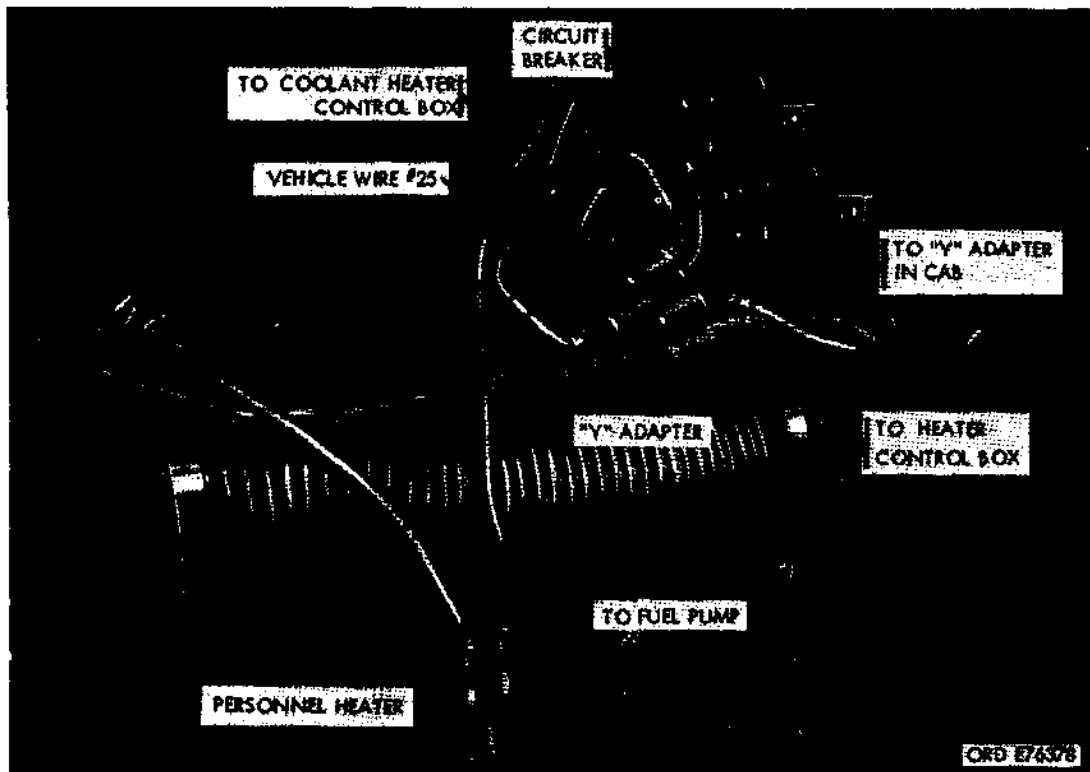

Figure 687. Vehicle to heater power connections.
- (1) Remove 1- $\frac{3}{8}$ inch knockout on firewall above and near the heater duct (Figure 687).
- (2) Plug heater-to-control box harness 8359927 into heater receptacle.
- (4) Lead heater to control box harness into cab through knockout hole obtained in (1) above, and plug it into control box receptacle.
- (5) Plug attached lead of harness into one arm of Y adapter MS 96906-27147-1 (Fig. 687).
- (6) Plug 72 inch lead assy 10932060-4 (Fig. 687) into other arm of Y adapter MS
- (7) Locate vehicle No. 25 lead (hanging loose on inner firewall) and plug it into leg of a Y adapter (Fig. 687).
- (8) Plug 6 inch lead assy 10932060-1 into one arm of adapter installed in (7) above (Fig. 687).
- (9) Plug other end of 6 inch lead assy 10932060-1 into vacant orifice of circuit breaker (Fig. 687).
- (10) Plug 13 inch lead assy 10932060-2 into the other arm of Y adapter MS 96906-27147-1 and insert other end of lead assy through 1- $\frac{3}{8}$ knockout hole in firewall (knocked out in (1) above) into cab. Attach to leg of another Y adapter MS 96906-27147-1. Install grommet around control box to heater harness and 13 inch lead and insert in 1- $\frac{3}{8}$ inch hole knocked out in (1) above.